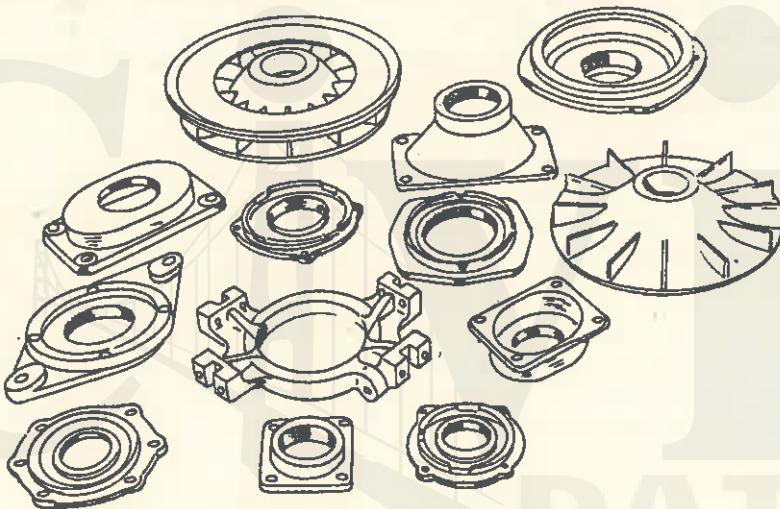

Fig. 6.13. Production Family
- Group technology involves the machining of parts in families, (Fig. 6.13).
From this information the profile and parameters of the component family (Fig. 6.13) are constructed against which the acceptance or non-acceptance of new components into the *family* can be used.
N.B. In Fig. 6.13, most components have different *shapes* and *functions*; but all of them require internal boring, face milling, hole drilling and so on. Therefore, it can be concluded that the components are *similar*. The set of similar components can be called a *production family*. From this, process planning work can be facilitated.